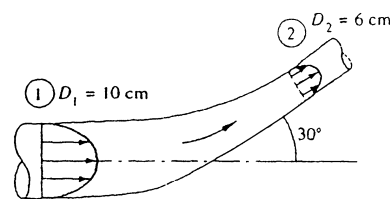

Fig. P3.39
**3.39** For the elbow duct in Fig. P3.39, SAE 30 oil at 20°C enters section 1 at 350 N/s, where the flow is laminar, and exits at section 2, where the flow is turbulent: